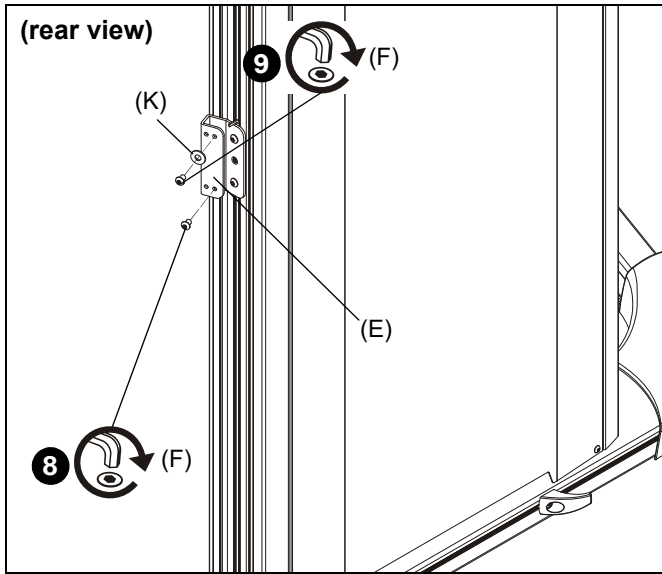

Figure 6
8. Loosely install 1/4-20 x 3/8" button head cap screw (F) into lower back hole on adapter bracket (E). (See Figure 6)
9. Loosely install 1/4-20 x 3/8" button head cap screw (F) through 1/4" washer (K) and into upper back hole on adapter bracket (E). (See Figure 6)